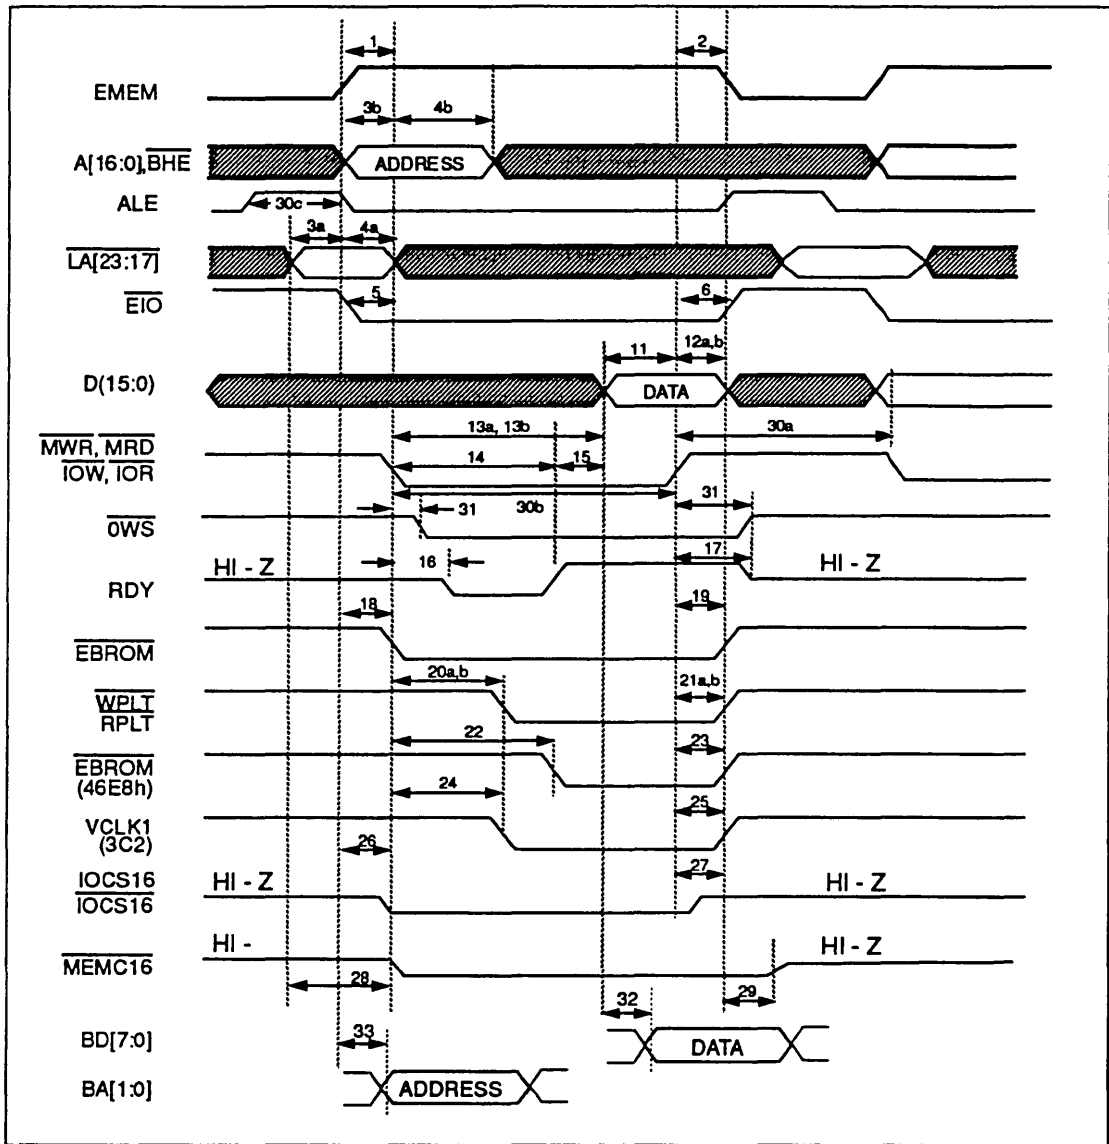

FIGURE 19-3. AT BUS MODE TIMING
- Numbers the first column correspond to numbers on the timing diagram Figure 19-3.